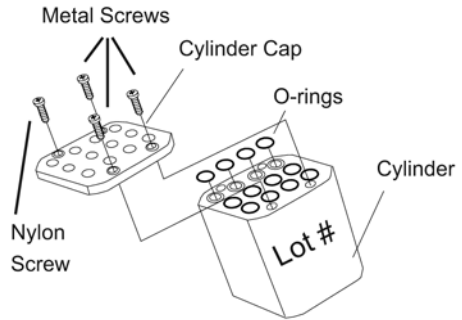

Figure F.2.3a: Removing O-rings
- **125 µl, 30 µl, 12.5 µl Pipettes:** O-rings from these pipettes are located in the cylinder. To remove the O-rings, unscrew the four screws that hold the cylinder cap to the cylinder (see Figure F.2.3a). Once removed, the O-rings should be discarded as biohazardous waste.